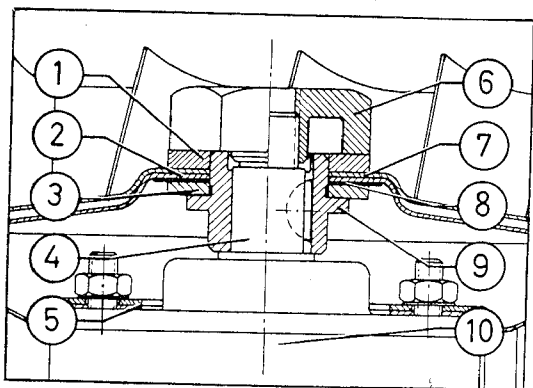

Fig. 82
1. Note that the spacer washers are installed in the correct sequence (Fig. 82).